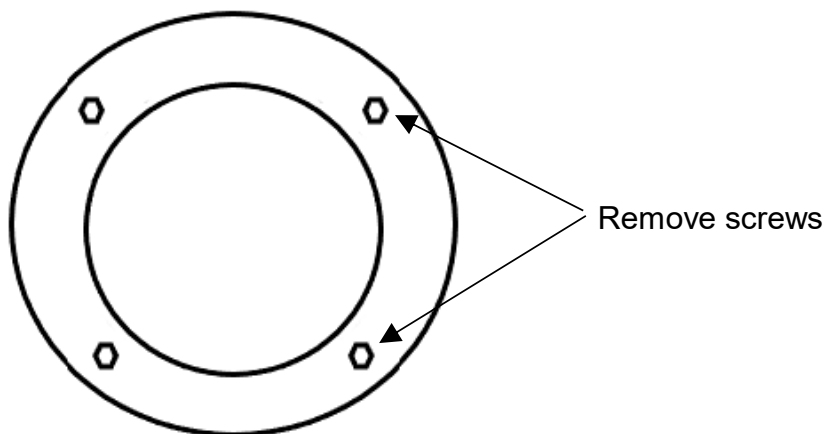

Fig. 1
- Remove the diffuser removing the four screws using the Allen key provided (see Fig. 1)